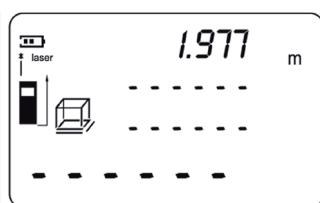

Fig. 12
4. Press the Read button to display the measured length on the first line of the screen. The line for the width in the symbol will start to flash (fig. 12).